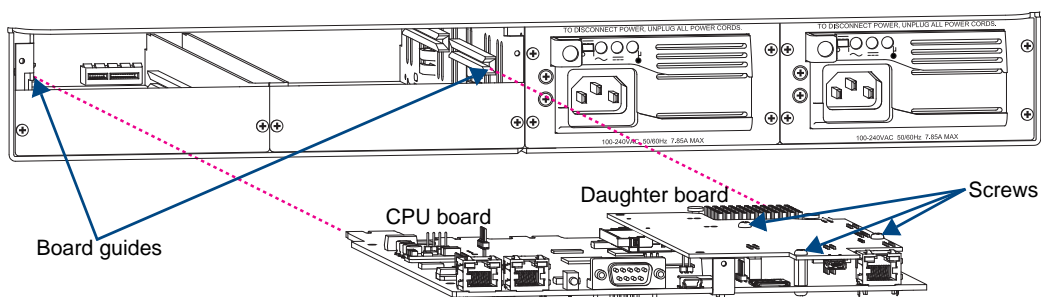

FIG. 117 Remove 3 screws indicated
6. Remove the three screws indicated on top of the CPU / daughter board assembly (FIG. 117) and remove the daughter board.
12. Slowly slide the CPU board into the empty slot, being careful to align the edges in the board guides along the insides (the board guides are shown in FIG. 117).